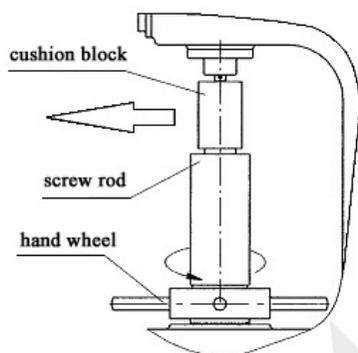

Figure 5
- 7 Turn the hand wheel (4) anticlockwise to let the elevating screw rod (5) down and then remove the cushion block of the indenter (see Fig 5). In case that the elevating screw rod does not descend by turning the hand wheel, but to the opposite, the hand wheel rises with the elevating screw rod and the cushion block not removable, maybe the elevating screw rod and its seat (under the hand wheel) are adhered together by anti-rust oil. This can be solved by rotating the hand wheel anticlockwise to rise up to 20 mm or so, pressing down the hand wheel by hand with force so that the elevating screw rod and its seat are disengaged. Remove the protective sleeve around the elevating screw rod, clean the elevatingscrew rod and hand wheel off anti-rust oil with kerosene, fill adequate amount of lubricants into the contact positions between the elevating screw rod and hand wheel, and then reassemble the protective sleeve.